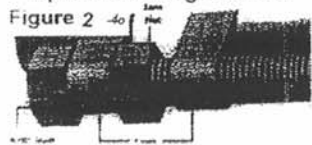

Figure 2
- Drive bolt into lug until the ends of the bolt ring are as follows: (See Figure 2)